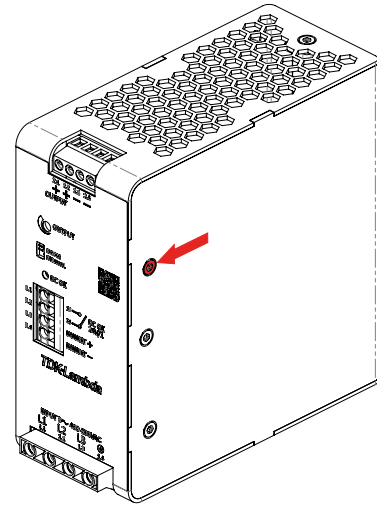

Fig. 32: Position of the connection screw for the GDT
- 1) Completely remove the connection screw (marked with an arrow) with a Torx X10. (Fig. 32)